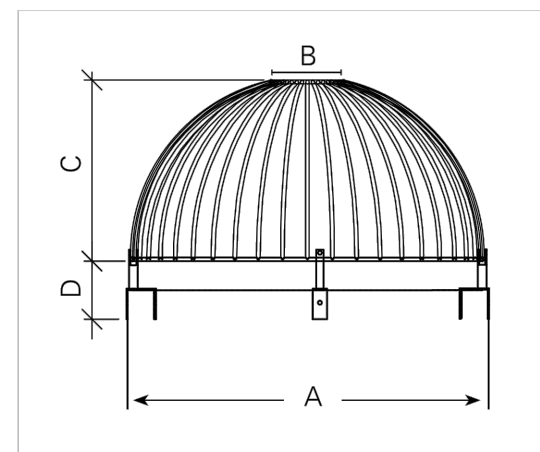

FIG. 1 Dimensions of Type 1 Hynds Scruffy Dome (see table)
- The type 1 debris screen is a full height design, suitable for manholes with a 600mm diameter or larger. (Refer to figure 1) - The type 2 debris screen has a lower height profile making it less noticeable in areas such as parks and gardens. Suitable for manholes with a diameter of 600 mm or larger. (Refer to figure 2)	- Dome brackets are bolted to the manhole riser with stainless steel bolts. - The bolts are purchased separately. Note: The North Island and South Island have different versions of Surfco domes with small changes in the bracket design (See photos below). Please contact your local Hynds branch for more information.